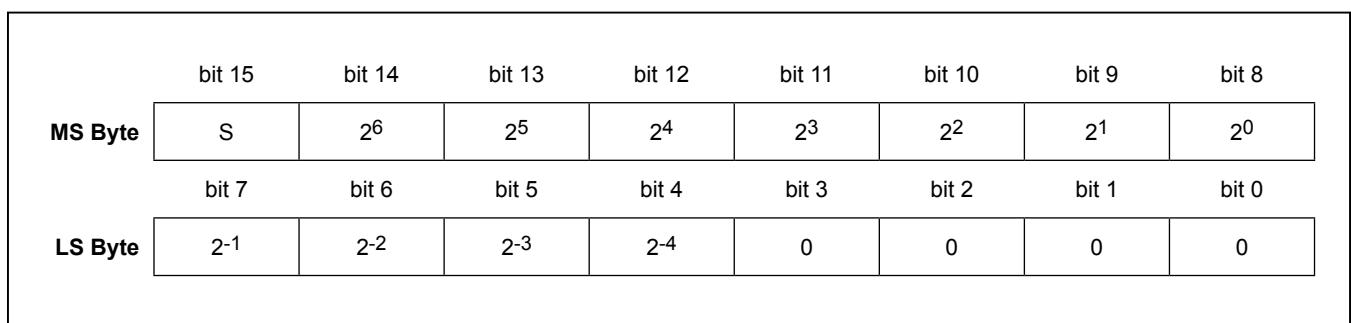

Figure 3. Temperature, T_{OS}, and T_{HYST} Register Format
After each temperature measurement and analog-to-digital conversion, the DS75LV stores the temperature as a 16-bit two's complement number in the 2-byte temperature register (see Figure 3). The sign bit (S) indicates if the temperature is positive or negative: for positive numbers S = 0 and for negative numbers S = 1. The most recently converted digital measurement can be read from the temperature register at any time. Since temperature conversions are performed in the background, reading the temperature register does not affect the operation in progress.
The data format of the T_{OS} and T_{HYST} registers is identical to that of the temperature register (see Figure 3), i.e., a 2-byte two's complement representation of the trip-point temperature in degrees centigrade with bits 3 through 0 hardwired to 0. After every temperature conversion, the measurement is compared to the values stored in the T_{OS}